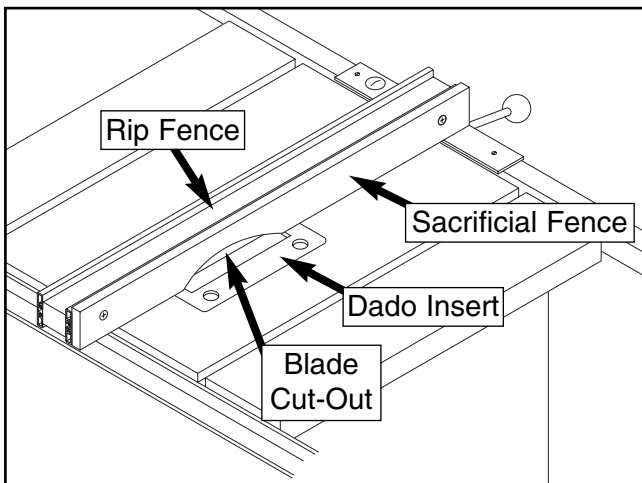

Figure 40. Sacrificial fence.
2. Rabbet cutting on the edge of a piece of stock requires the use of a wooden sacrificial fence that is as long as the metal fence and $\frac{3}{4}$ " thick as shown in **Figure 40**. Attach the sacrificial fence to the metal fence with screws or clamps, making sure they are all secure and tight.